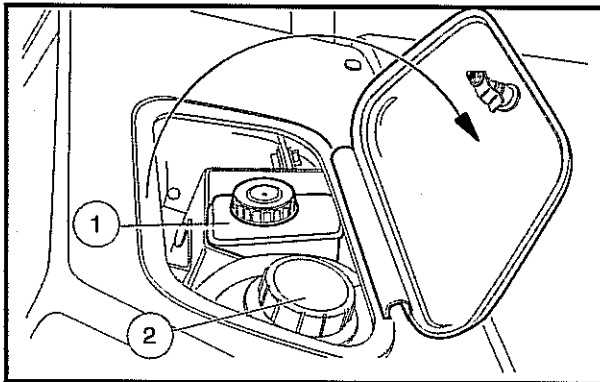

Figure 15 Brake Fluid and Coolant Access Door
The brake fluid reservoir (1) is located under the dashboard (**Figure 15**). Raise the access panel located on top of the dashboard to check the brake fluid level.
The coolant reserve tank is located under the dashboard next to the brake fluid reservoir (**Figure 15**). Raise the access panel located on top of the dashboard to check the coolant level before every operation.